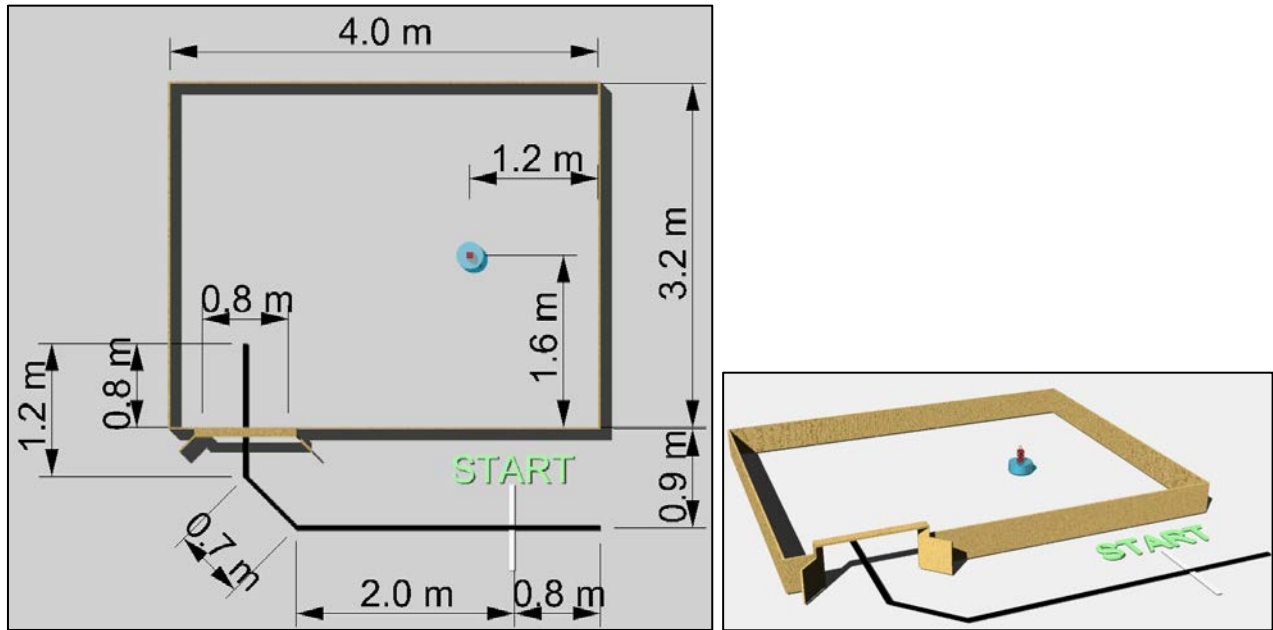

Figure 1: (a) Top view of test course layout with dimensions and (b) isometric view of track
- (a) The hovercraft must be capable of completing the mission detailed in Fig. 1 in less than 10 minutes.
The course (shown in Fig. 1) will be indoors on a smooth, flat surface. At the start of the mission, the hovercraft must begin fully behind the white tape line marked “START” with at least some portion of the hovercraft over the black tape line. The boundaries of the track are created by 290 mm tall sidewalls. A continuous black tape line composed of straight segments creates a pathway from the starting line to the arena. All tapelines are 51 mm wide. To enter the arena, the hovercraft must pass under an 89 mm wide plank that is located 400 mm above the ground.